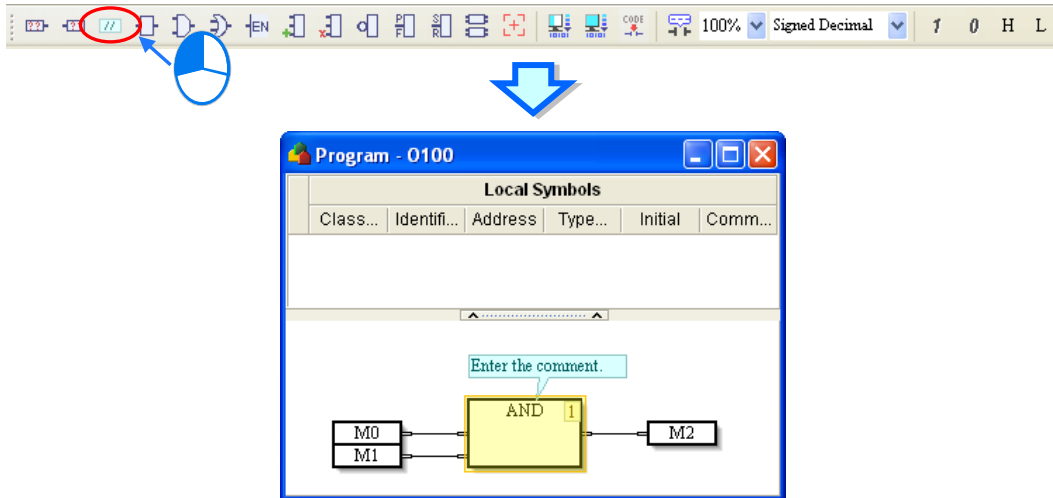

Figure 12-45 Comment binding with an object
- (2) After the users click **Comment** on the PMSoft toolbar, the comment binding with the object will appear, as shown in figure 12-45. The users can edit the comment.